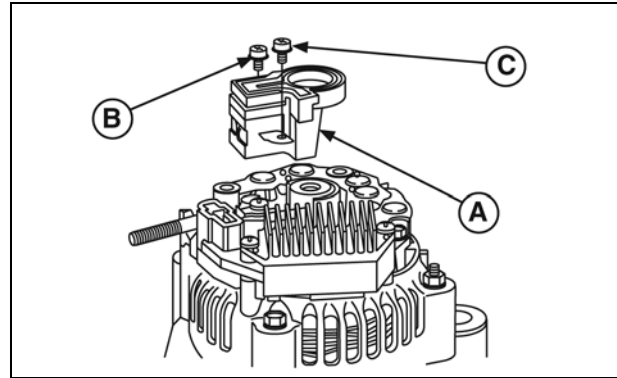

Figure 22
- Remove three screws and regulator (A, Figure 22).